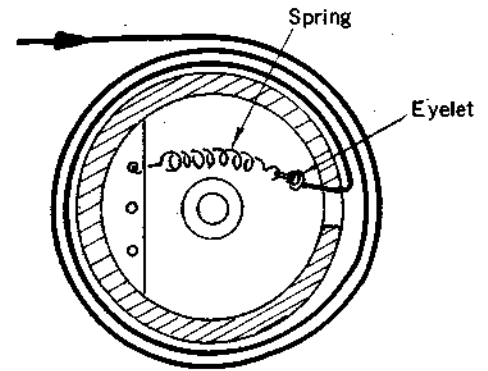

Fig. 2-11 Finish Point of Dial Cord
- (i) Pass the cord through the slot and hook it to the spring, using an eyelet as shown in Fig. 2-11.